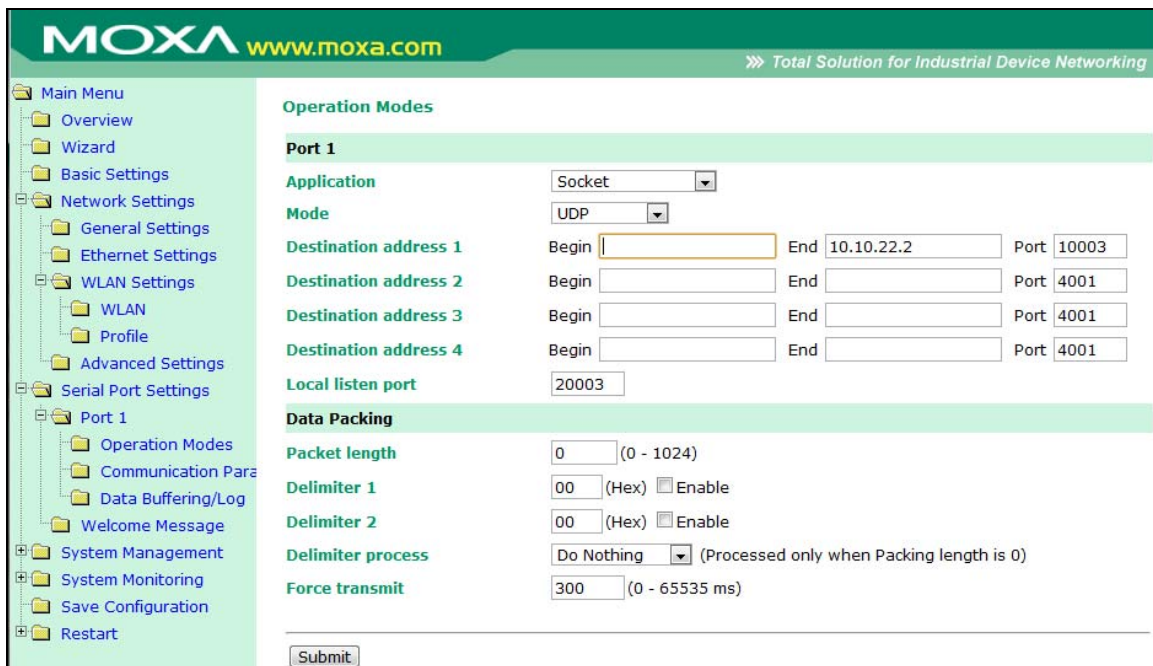

Figure 20: Configuring NPort W2150 Plus Serial Port Settings
- i. Set **Application** to Socket (Figure 20)
- iii. Set Communication Parameters to match that of the GPS receiver, as illustrated in Figure 20.